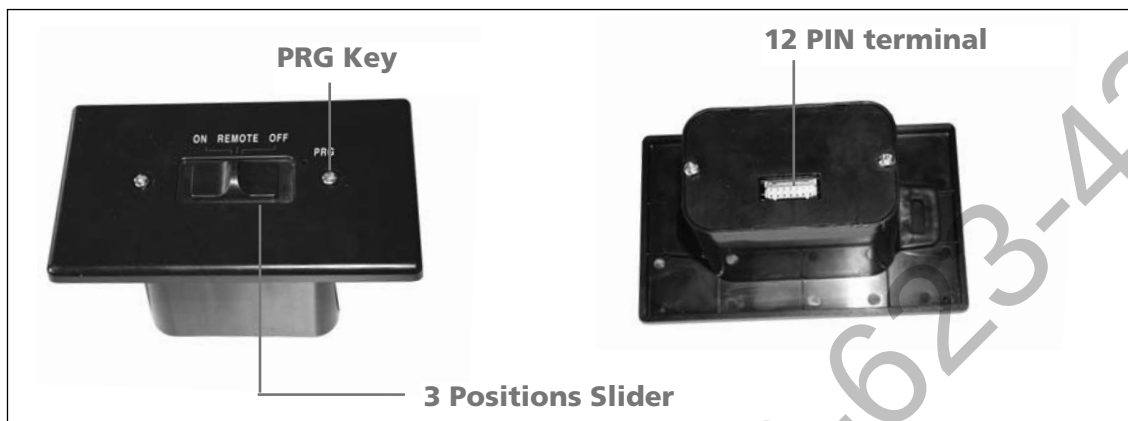

Fig. 3: Proflame Receiver body.
The Proflame Receiver (Fig. 3) connects directly to the gas valve and stepper motor and Fan Control Module with a wiring harness. The Receiver is powered by 4 AA type batteries. The Receiver accepts commands via radio frequency from the Transmitter to operate the appliance in accordance with the particular Proflame system configuration. The Receiver three position slider switch can be set to one of three positions: ON (Manual Override), Remote (Remote control) or Off.
Install the 4 AA batteries into the receiver battery bay. Note the polarity of the battery and insert into the battery bay as indicated on the Battery cover (+/-). Place the 3 position slider switch in the "Remote" position. (fig. 3) Using the end of a paper clip, or other similar object, insert the end of the paper clip into the hole marked "PRG" on the Receiver front cover (fig 3). The Receiver will "beep" three (3) times to indicate that it is ready to synchronize with a Transmitter. Install the 3 AAA type batteries in the Transmitter battery bay, located on the base of the Transmitter. With the batteries already installed in the Transmitter, push the On button. The Receiver will "beep" four times to indicate the Transmitter's command is accepted and sets to the particular code of that Transmitter. The system is now initialized.